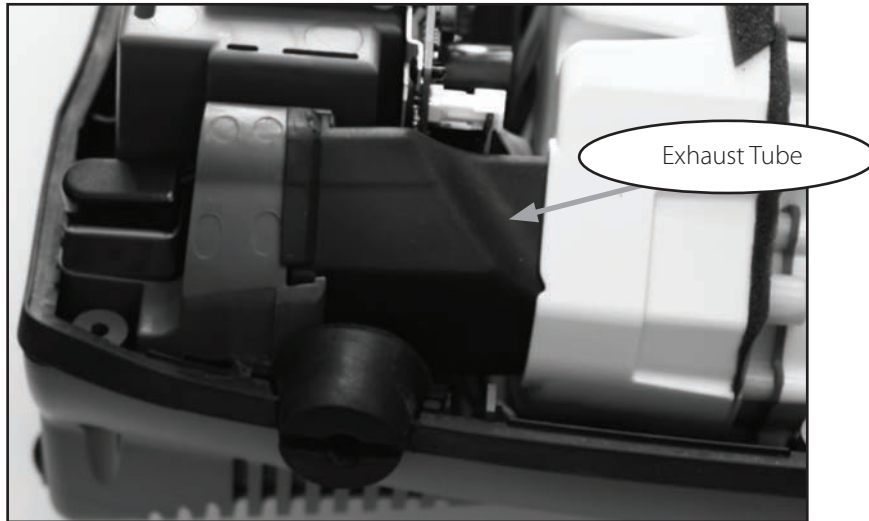

Fig 49: Exhaust Tube
- 1.5 Remove the Exhaust tube in Figure 49. Set aside for later installation.